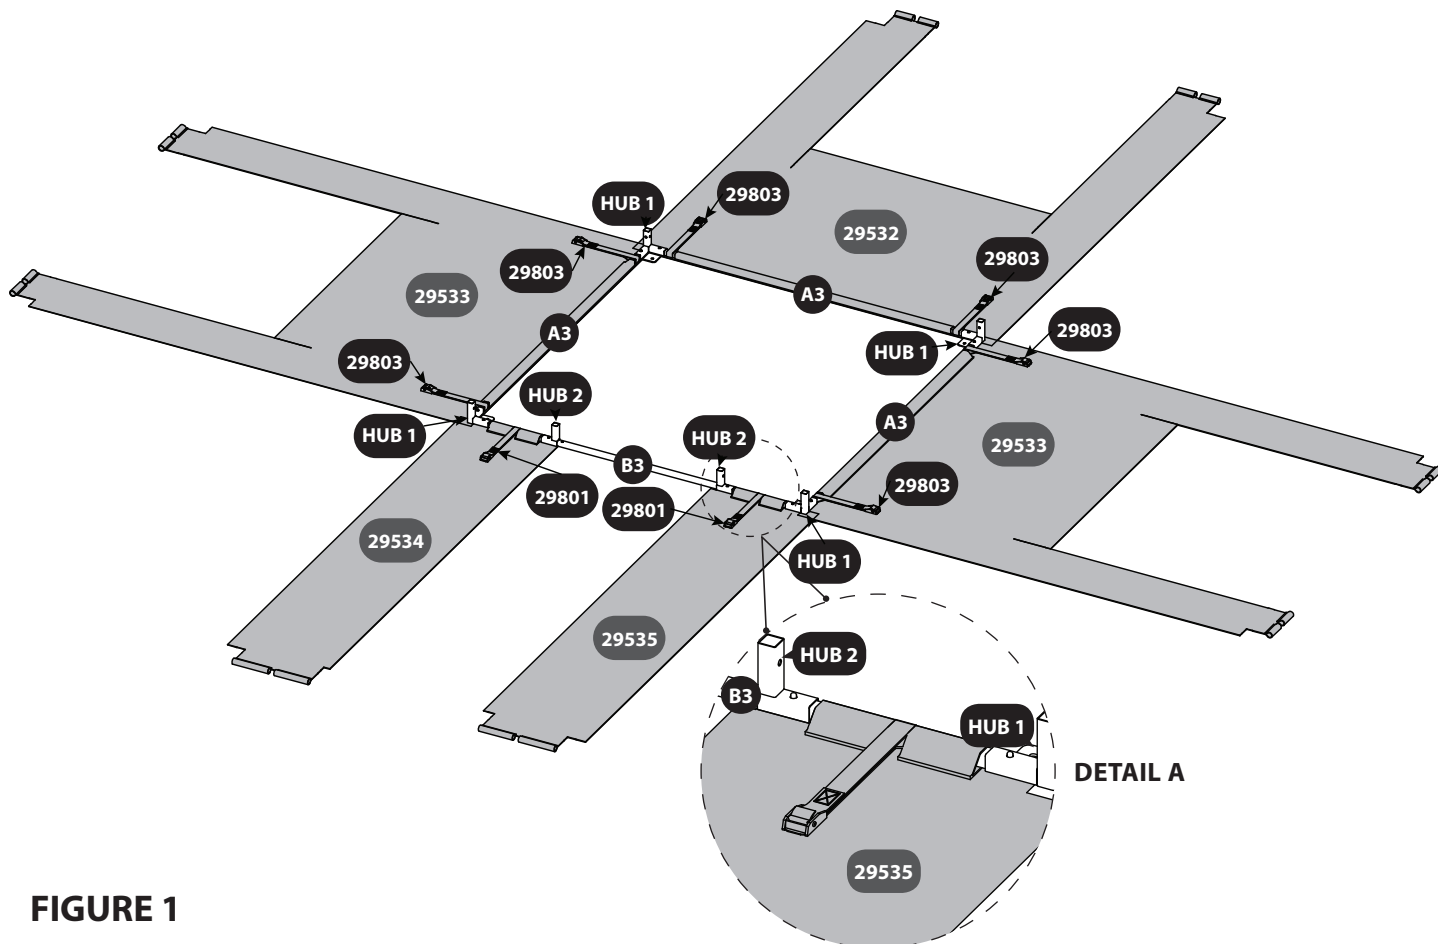

FIGURE 1
2. Locate the four corner hubs (HUB 1), three (A3) poles, one (B3) pole, and two bottom door frame hubs (HUB 2) shown in **FIGURE 1**. Also, find the eight cam strap ends of (29801) and (29803), as well as five wall panels: one (29534), one (29535), one (29532), and two (29533) as shown in **FIGURE 1**.
3. Begin assembly by sliding the two bottom door frame hubs (HUB 2) down to the second snap pin in pole (B3) as shown in **FIGURE 1** and **DETAIL A**. Next slide front right wall panel (29535) and front left wall panel (29534) onto each end of pole (B3) as shown in **DETAIL A**. Being sure to only slide one sleeve onto the pole before sliding on a cam strap followed by the other sleeve. Be sure that cam straps are oriented with cam lever facing up as shown in **DETAIL A**.
4. Slide two corner hubs (HUB 1) onto the ends of pole (B3) so that the snap buttons secure the pieces together as shown in **FIGURE 1** and **DETAIL A**.
5. Locate pole (A3) and slide through bottom sleeves on one of the side wall panels (29533). Then slide one cam strap end onto each end of pole as shown in **FIGURE 1**. Be sure that cam straps are oriented with cam lever facing up, the same as the cam strap shown in **DETAIL A**. Repeat this step for the opposite side wall panel (29533) and the back wall panel (29532).